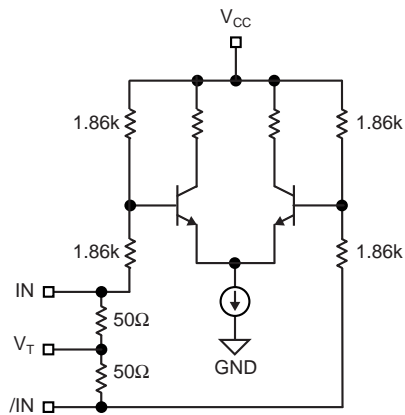

Figure 2a. Simplified Differential Input Buffer
- Note 3.** Due to the internal termination (see Figure 2a) the input current depends on the applied voltages at IN, /IN and  $V_T$  inputs. Do not apply a combination of voltages that causes the input current to exceed the maximum limit!
**Note 3.** Measured as per Figure 2a, 100 $\mu$  across Q and /Q outputs.